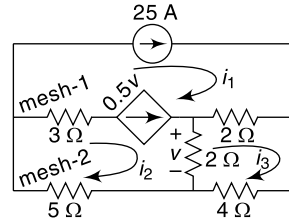

Fig. 14.27
14.55 Determine the mesh currents in the circuit shown in Fig. 14.27
From Fig. 14.27 it is clear that $i_1 = 25$ A. Considering mesh 1 and 2 we get,